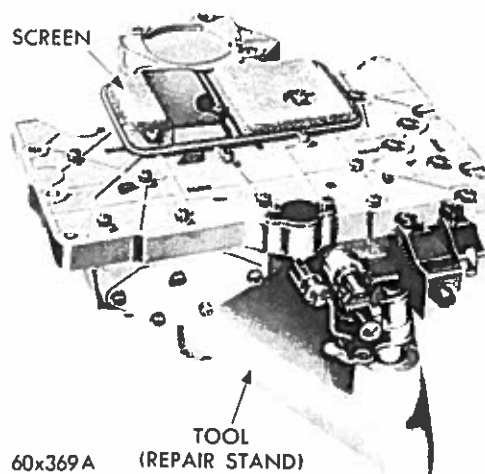

Fig. 48—Removing or Installing Oil Screen
(1) Place the valve body assembly on repair stand, Tool C-3749 (Fig. 48). Remove three screws from oil screen and lift off the screen.